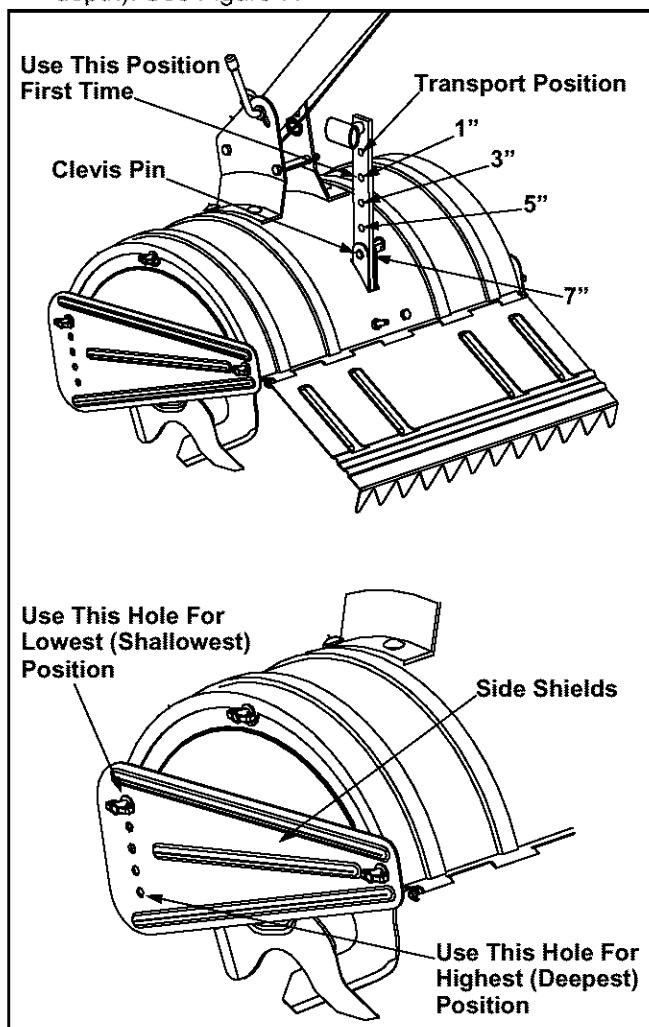

Figure 7
- When using the tiller for the first time, use the second adjustment hole from the top (1" of tilling depth). See Figure 7.
See Figure 7.